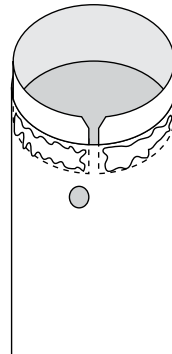

Figure 9
3. Position the splice ring, notches up, inside the tube so that the line you drew is even with the top of the tube (Figure 9). Take care not to get any glue on the part of the splice ring that sticks up out of the tube.